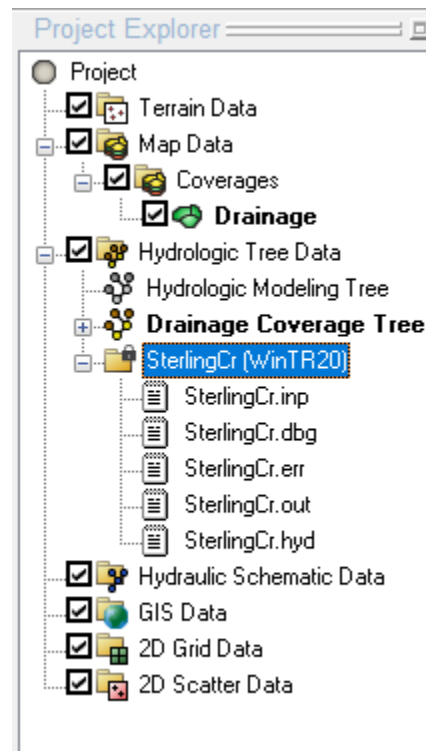

Figure 9 The WinTR-20 solution files
6. Notice the solution files that were read with the solution in the Project Explorer (see Figure 9). If desired, double-click or right-click on some of these files to view them in a text editor. The WinTR-20 output files include the following items: